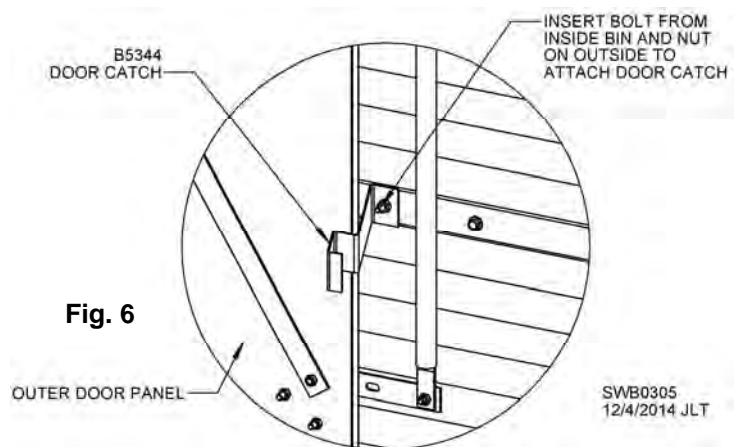

Fig. 6
13. Install door catch. See Fig. 6. Remove and use existing bolt for catch mounting, or field-drill hole into bin sidewall if an existing bolt is not in correct spot.
14. Attach doorstep below door. It may be possible to align some bolt holes with those in bin sidewall. If not, field-drill four (4) mounting holes. Use 5/16" x 1" bin bolts and 5/16" nuts to attach doorstep to bin.